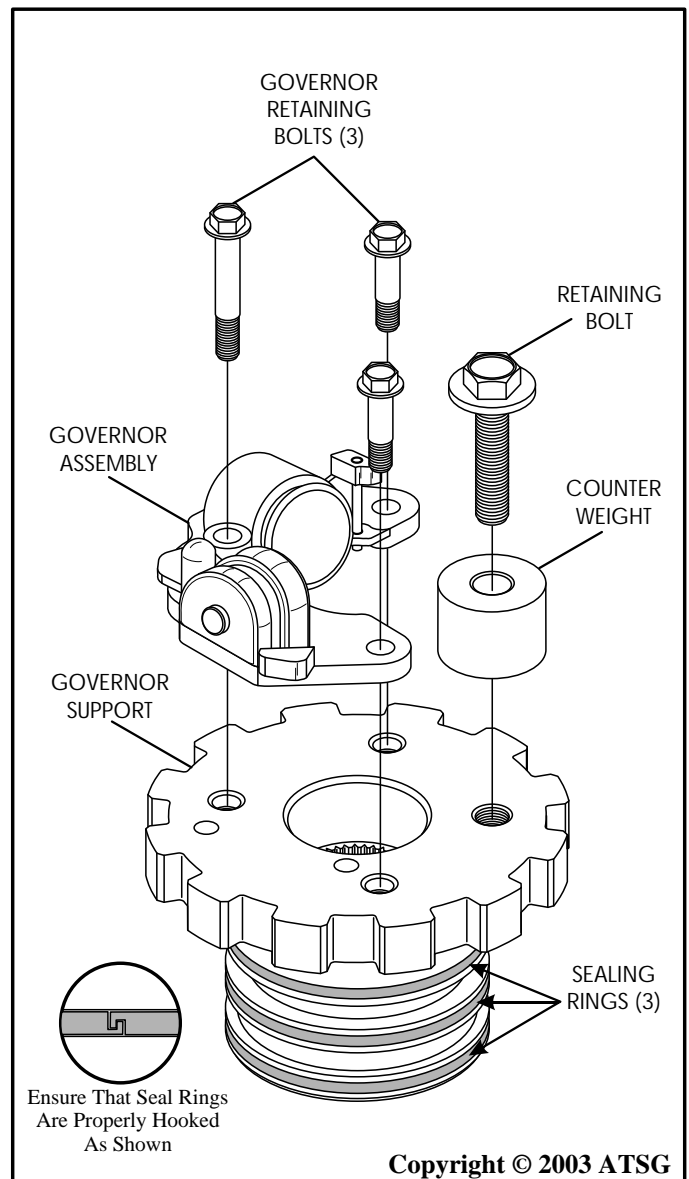

Figure 112
1. Disassemble governor and governor support assembly, as shown in Figure 112.
- Note: It is not necessary to remove the counter weight, as shown in Figure 112, unless damage is apparent.*
4. Install 3 **new** sealing rings on governor support, as shown in Figure 112, and insure that they are properly hooked.
8. Governor assembly is now ready to install onto the support, as shown in Figure 112.
9. Install the governor body onto the governor support, as shown in Figure 112, and torque the three retaining bolts to 60 in.lbs.
11. If the counter weight was removed, torque its retaining bolt to 250 in.lbs. (See Figure 112).